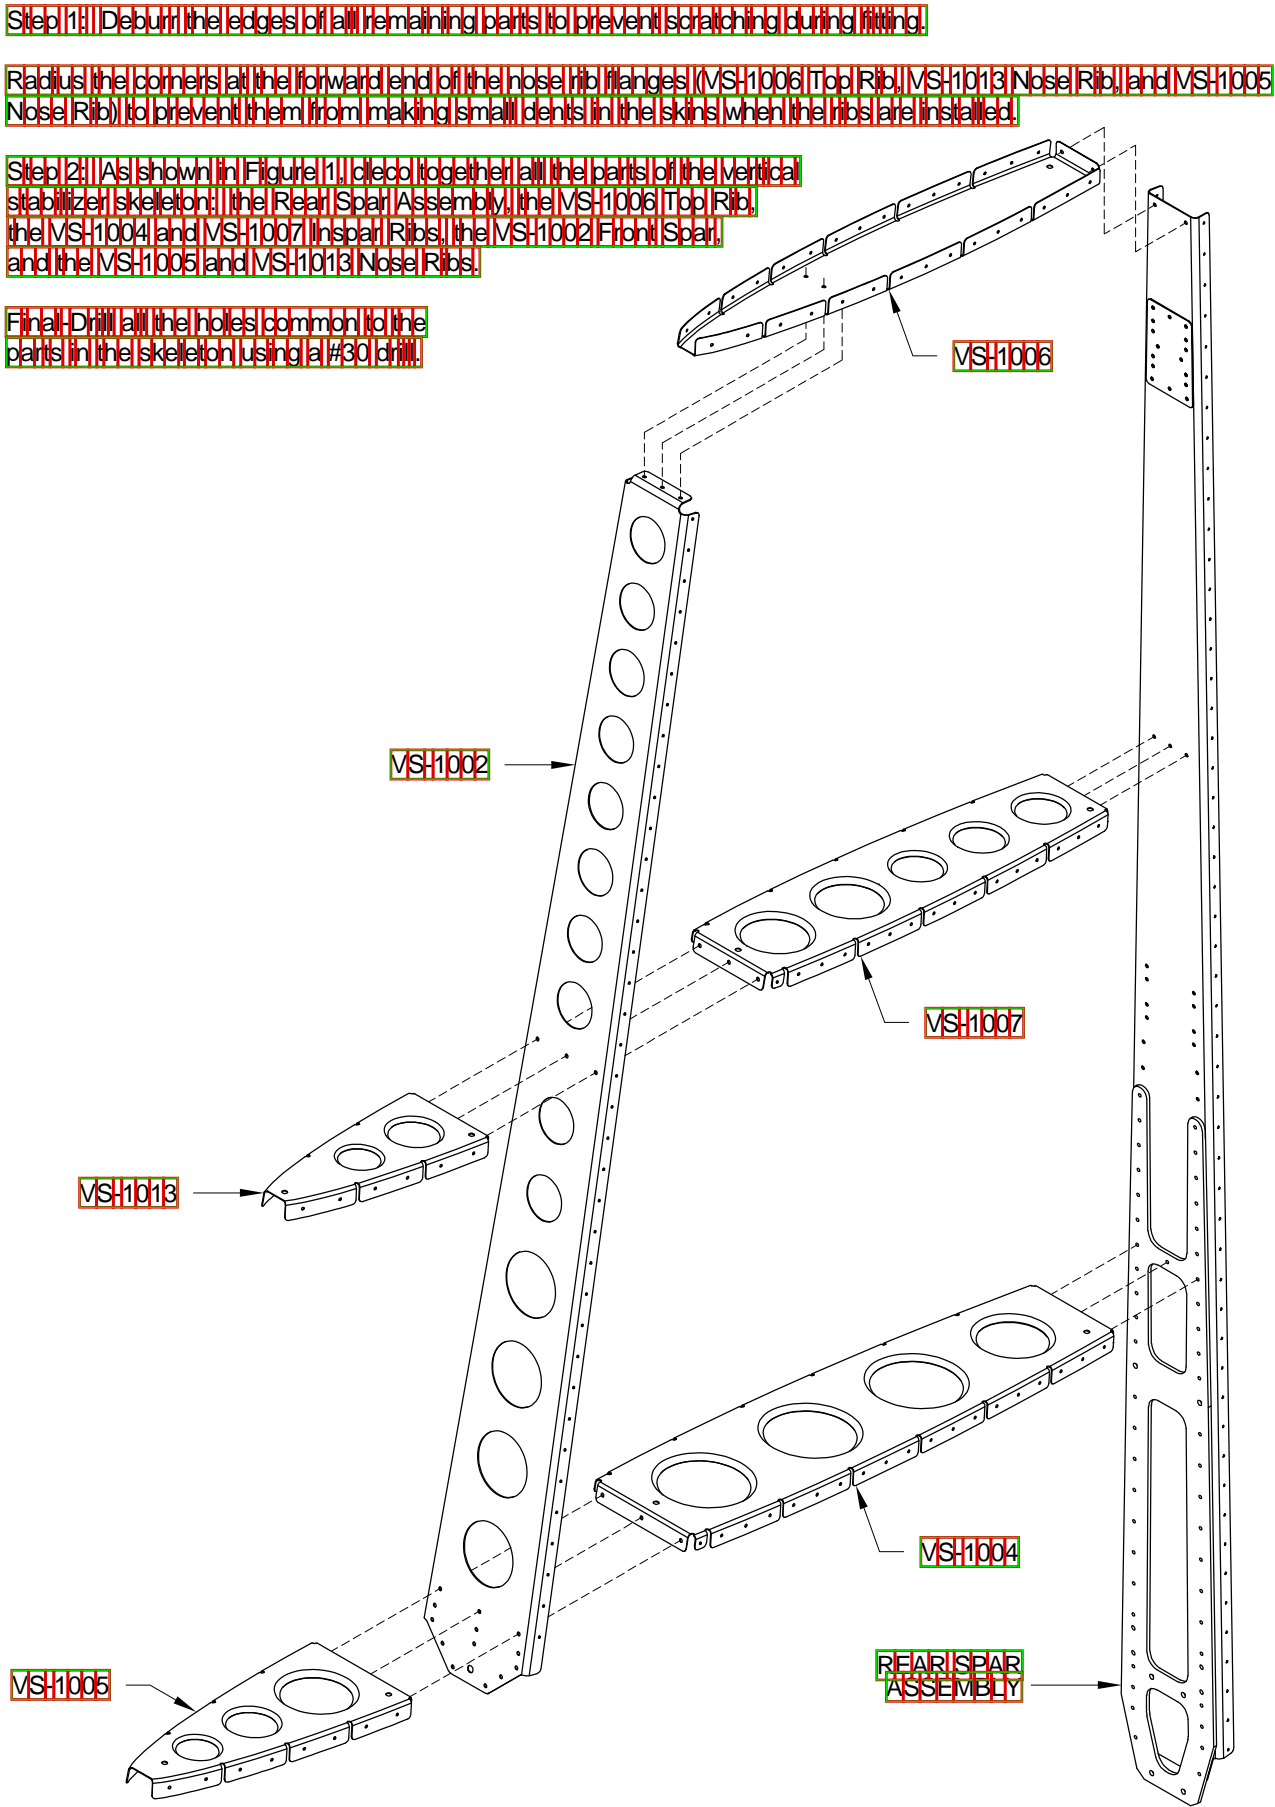

FIGURE 1: SKELETON ASSEMBLY
- Step 2: As shown in Figure 1, deco together all the parts of the vertical stabilizer skeleton: the Rear Spar Assembly, the VS-1006 Top Rib, the VS-1004 and VS-1007 In Spar Ribs, the VS-1002 Front Spar, and the VS-1005 and VS-1013 Nose Ribs.